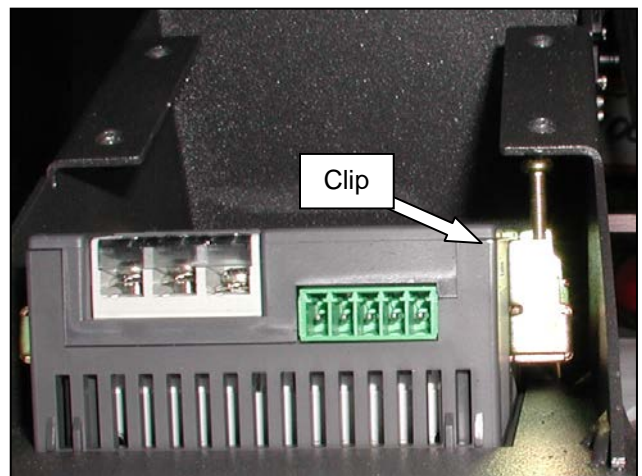

Figure 3-89. Reattach Retaining Clips
- Reattach retaining clips to Touch Screen (Figure 3-89).